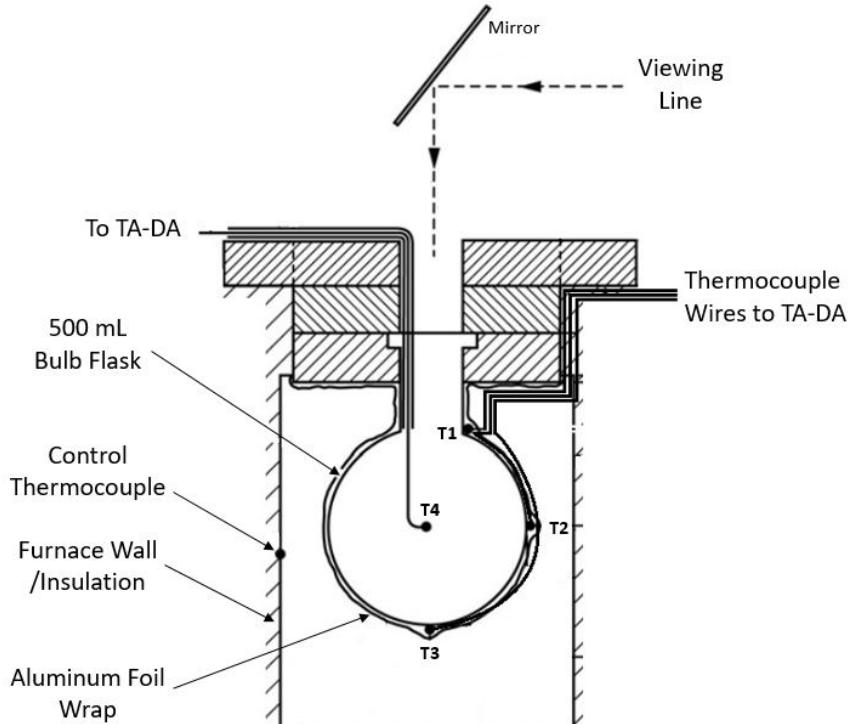
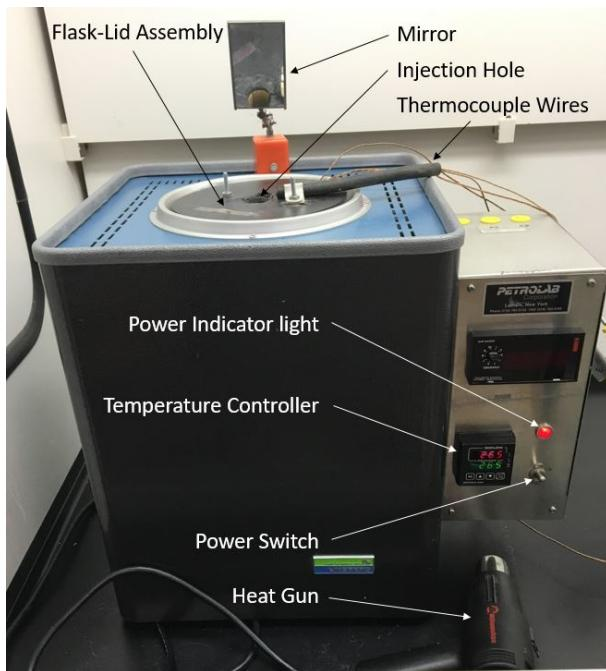

Figure 4: Diagram of the furnace when assembled
Figure 6: AIT Furnace
- The final setup should resemble Figure 4
- The furnace, shown in Figure 6, is an encased stack of ceramic insulation with cavities cut out to allow space for the heating elements and the test flask (see Figure 4 for an internal diagram of the furnace). The furnace is controlled with measurements taken at the insulated furnace wall. This design causes the furnace to have large temperature gradients while in operation. As a result, the setpoint temperature and the flask temperature will almost always differ significantly (as much as 25 K in some cases). Therefore, setpoints must be chosen between approximately 10 - 20 K above the desired temperature to reach that temperature inside the flask. **The reported AIT must be taken from the internal flask temperature (Thermocouple 4) and NOT the control thermocouple inside the furnace**
1.2.2 Furnace Operation (See Figure 6)